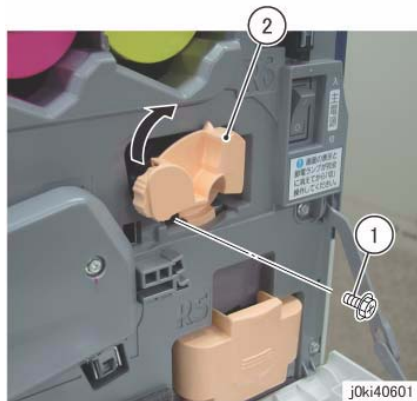

Figure 1 Rotate the shutter clockwise
4. Rotate the shutter of the Transfer Belt Cleaner Assembly clockwise. (Figure 1)